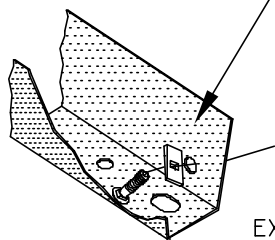
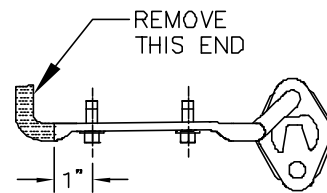

FIGURE 2.
FIGURE 3.
2. FISHWIRE CARRIAGE BOLT(S) AND 1/4 X 1 X 3 BLOCK(S) THROUGH ACCESS HOLE(S) AT END OF FRAME AND INTO EXISTING SLOT(S) IN BOTTOM OF FRAME. REMOVE FISHWIRE.
3. FISHWIRE CARRIAGE BOLT(S) AND 1/4 X 1 X 2 BLOCK(S) THROUGH ACCESS HOLE(S) AT END OF FRAME. KEEP BOLT(S) AND BLOCK(S) INSIDE FRAME UNTIL HITCH IS IN POSITION. LEAVE FISHWIRE(S) ON CARRIAGE BOLT(S) TEMPORARILY, FIGURE 2.
4. RAISE HITCH INTO POSITION. USE FISHWIRE(S) TO PULL CARRIAGE BOLT(S) THROUGH HOLE(S) IN HITCH BRACKET(S) ON DRIVER'S *(OR BOTH) SIDES. LOOSELY INSTALL CONICAL TOOTHED WASHER(S) AND HEX NUT(S) ONTO CARRIAGE BOLT(S).
5. ON ALL BUT LATER MODEL 2009'S INSTALL THREE (3) 12mm THREAD FORMING BOLTS AND CONICAL TOOTHED WASHERS INTO EXISTING UNTHREADED WELDNUTS ON PASSENGER SIDE AS SHOWN. BOLTS WILL FORM THREADS.
6. CUT OFF THE END OF THE EXHAUST HANGER THAT EXTENDS INTO THE FRAME. SEE FIGURE 3.
7. REATTACH THE EXHAUST HANGER WITH THE (2) TWO M8 X 1.25 X 55mm BOLTS AND 7/16 SPACER BLOCKS AND REATTACH THE CARBON CANISTER REMOVED IN STEP 1.